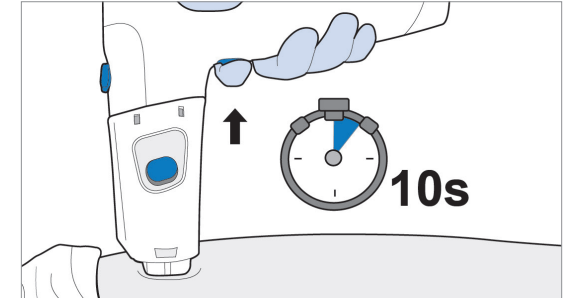

Figure 45 Treatment Time
22. Confirm the Handset displays "Press button to deliver treatment". Press and release the trigger to begin treatment. Hold the Handset firmly against the muscle until the treatment is complete (see Figure 45).